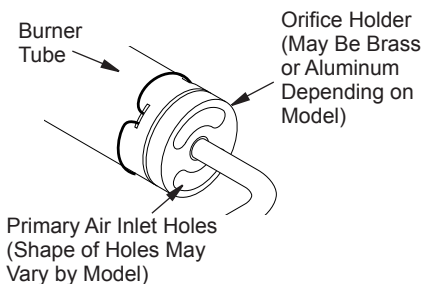

Figure 26 - Orifice Holder On Outlet Burner Tube
2. Inspect burner, pilot and primary air inlet holes on orifice holder for dust and dirt (see Figures 26 and 27).